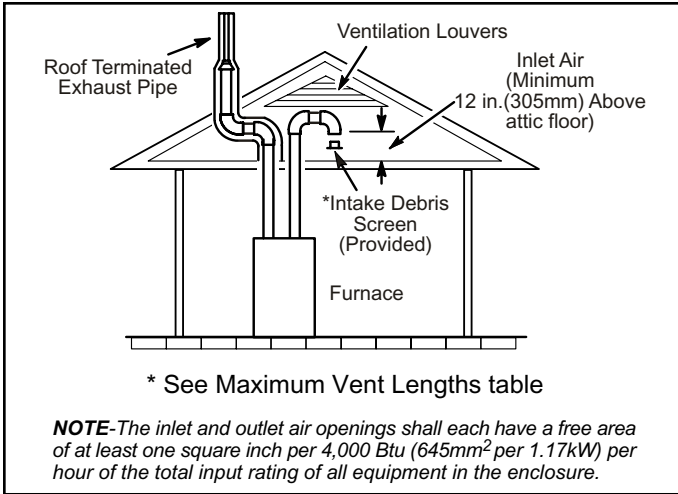
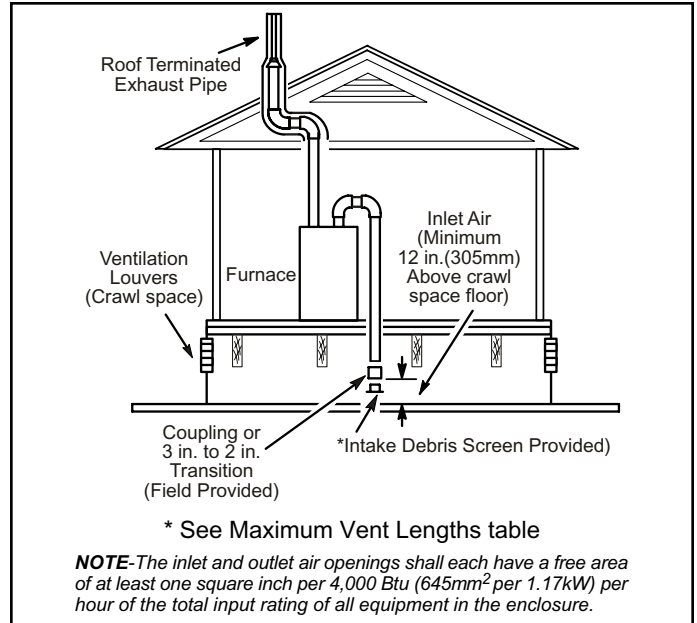

Figure 25. Equipment in Confined Space (Inlet Air from Ventilated Attic and Outlet Air to Outside)
Figure 26. Equipment in Confined Space (Inlet Air from Ventilated Crawl Space and Outlet Air to Outside)
2. If intake air is drawn from a ventilated attic (Figure 25) or ventilated crawlspace (Figure 26) the exhaust vent length must not exceed those listed in Table 8. If 3" diameter pipe is used, reduce to 2" diameter pipe at the termination point to accommodate the debris screen.